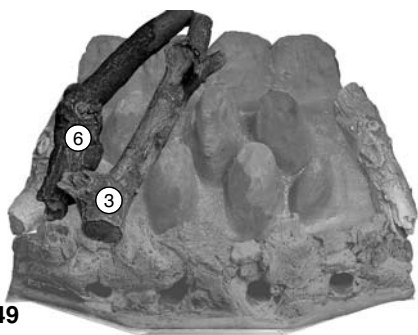

Fig. 49
5. Following Figs. 49 to 55, place the loose logs on to the fuel bed. It is important that the logs 'nest' together and sit on top of the fuel bed peaks.